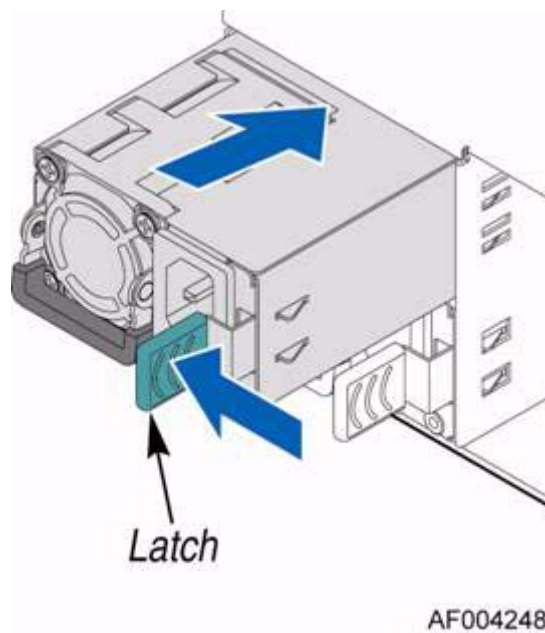

Figure 4-4 Installing the Power Supply Unit
1. Align and slide in the unit to the power cage rail as shown in Figure 4-4.